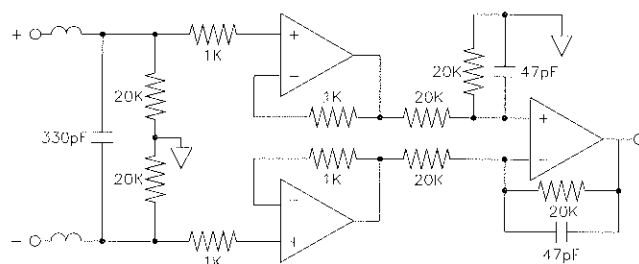

Fig. 1 Flex Series Balanced Input Stage
**Inputs.** All main line level inputs feature true differential instrumentation amplifier balanced designs with high common-mode rejection and RFI traps (Fig. 1). This means equal common-mode and differential-mode impedances, and superior noise immunity. These inputs easily handle +20dBu levels, with standardized input impedances of 20k ohms (each input to ground, i.e., 40k ohms balanced).